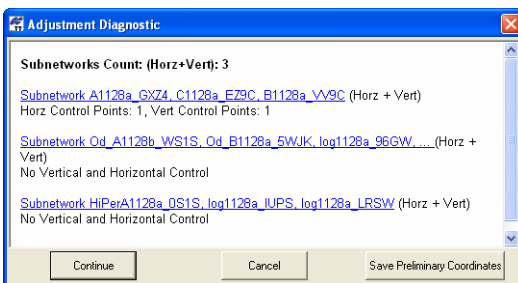

Figure 6-18. Messages After Analysis of the Net Components
- If a severe error exists, the network adjustment will stop for ALL components of the network and the *Adjustment Diagnostic* dialog box will display (Figure 6-18). For every component, the dialog box shows the existence/absence of horizontal and vertical control point(s).